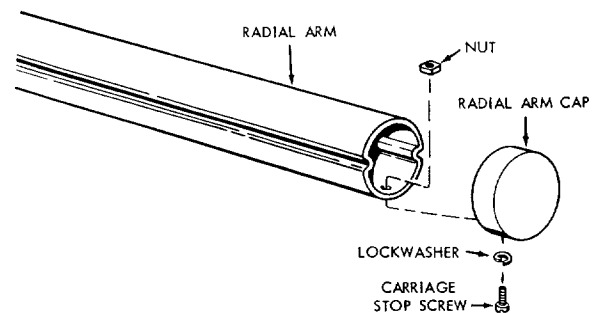
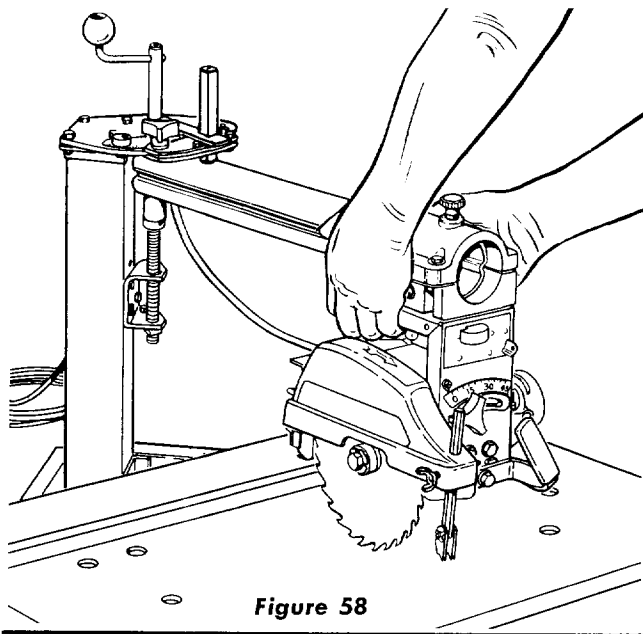
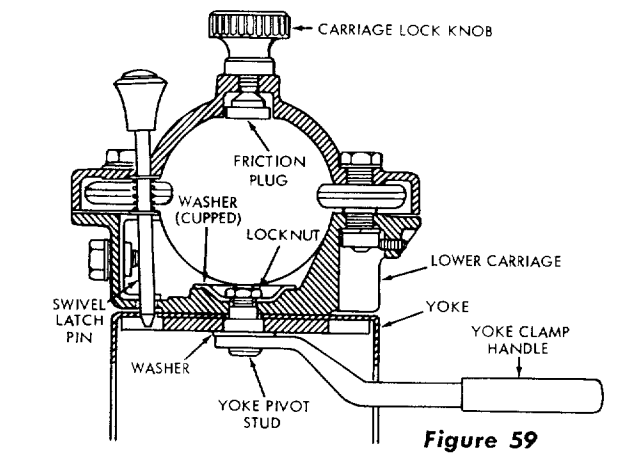

Figure 57
Figure 58
Figure 59
- (1) Grasp the radial arm cap and pull it off end of radial arm carefully. (See figure 57.) The cap should be "stretched" off end of arm at the top, then lowered free of the carriage stop sleeve at lower edge of radial arm.
- (2) Remove the carriage stop sleeve, lockwasher and nut (figure 57).
- (3) Loosen the carriage lock knob, then grasp the motor and carriage assembly and slide it off the radial arm. (See figure 58.) Rest the motor and carriage assembly on the front table.
- (4) Position the yoke clamp handle rearward until it rests against the yoke.
- (5) Reach inside the carriage assembly and tighten the lock nut on the yoke pivot stud with a 9/16-inch wrench. (See figure 59.) Tighten the lock nut until snug (not over tight) for a trial setting.
- (6) Loosen the yoke clamp handle, by pushing it toward the front of the carriage, then tighten it by pushing it rearward to check for correct adjustment.
- (7) If the yoke clamp handle still strikes the yoke before the yoke is securely clamped to the carriage, tighten the lock nut (figure 59) and recheck. This adjustment is correct when the yoke clamp handle becomes noticeably tight just as it strikes the yoke (or is just short of touching the yoke). Several trial settings may be required to achieve a satisfactory adjustment.
- (8) Install the carriage and motor assembly on the radial arm. (See figure 58.) Hold the assembly straight with the radial arm until all the bearings have entered the tracks. Make sure the friction plug (figure 59) remains in position.
- (9) Move the carriage rearward and tighten the carriage lock knob.
- (10) Install the carriage stop screw sleeve, lock-washer and nut. (See figure 57.)
- (11) "Snap" the radial arm cap (figure 57) onto the end of the arm with the palm of one hand. Make sure the stop screw passes through the hole in edge of cap.